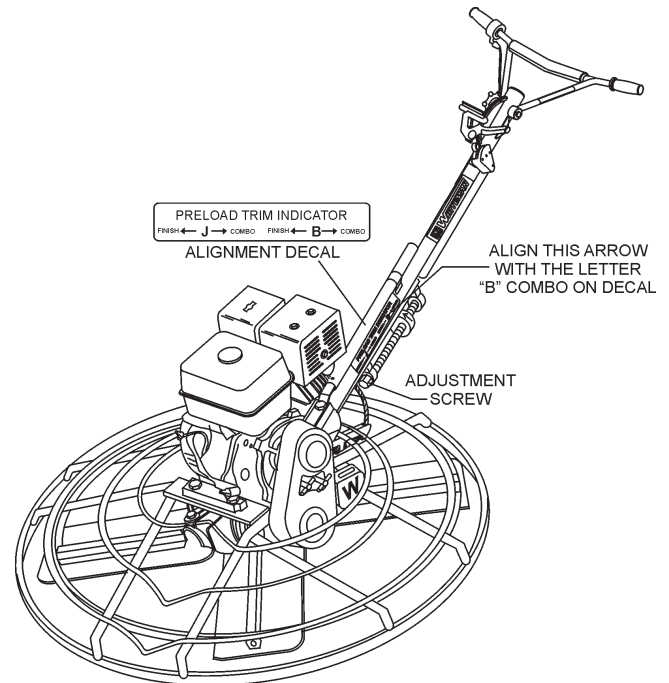

Figure 15. Pre-load Adjustment
2. Locate the adjustment screw on the underside of the handle tube (Figure 15).